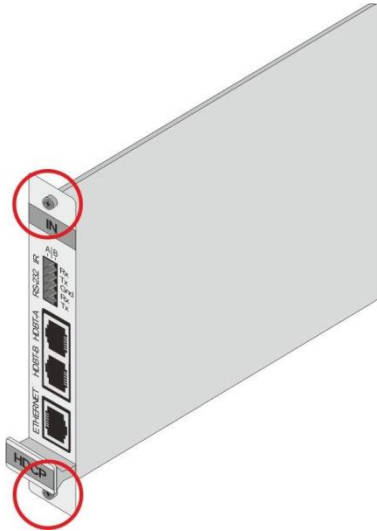

Figure 19: Card Handles
2. Using a Phillips screwdriver, loosen the screws at the top and bottom of the blanking plate (see Figure 19).